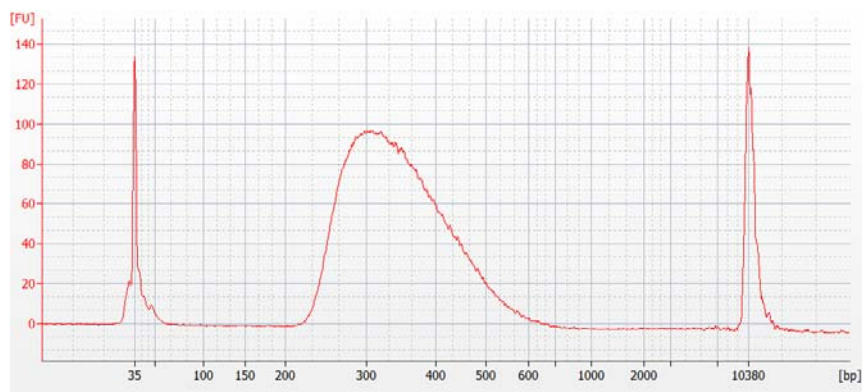

Figure 9 Post-capture analysis of amplified indexed library DNA using the 2100 Bioanalyzer and a High Sensitivity DNA Assay.
- 4 Verify that the electropherogram shows the peak of DNA fragment size positioned between 250 and 350 bp. A sample electropherogram is shown in Figure 9.